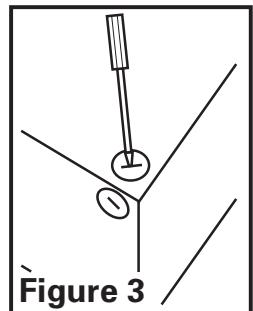

Figure 3
5. Select the most convenient electrical knockout and remove using a straight-blade screw driver (**Figure 3**).